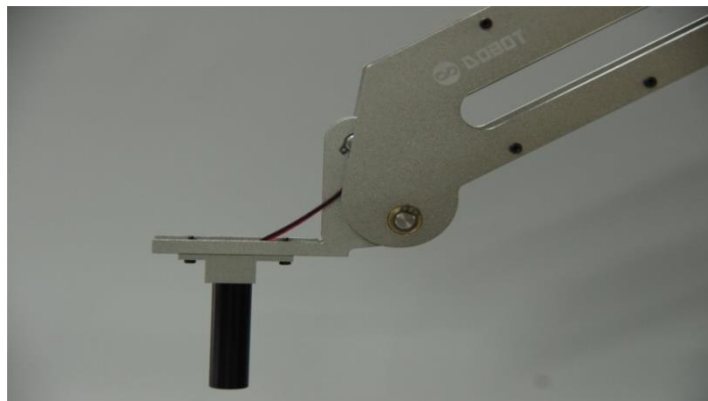

Figure 2.15 Laser installation (1)
2. Use the M2 bolt and nut to mount the laser holder under the end of the robot arm, then put the laser inside the holder from the bottom(cable go through the hole first, then the laser), as shown in Figure 2.15.